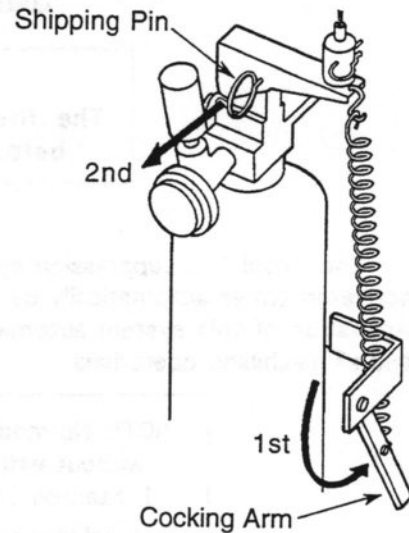

Figure 2
1. Locate the fire suppression tank assembly at the rear of the machine tool column. Pull down the cocking arm, shown in Figure 2.